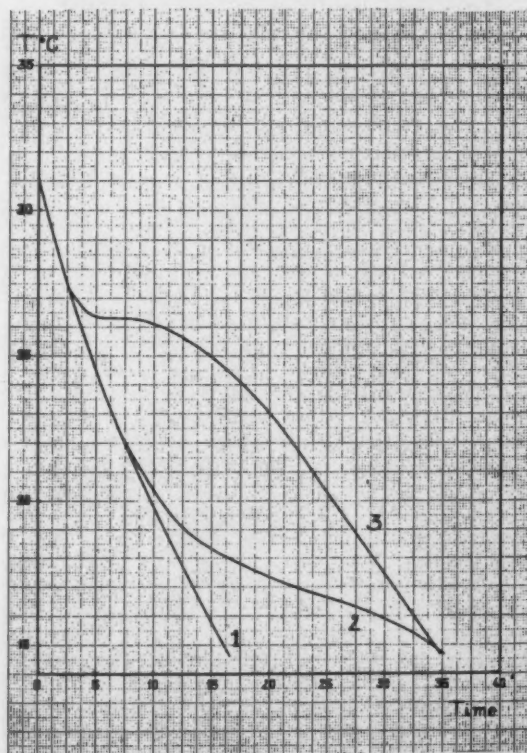

Fig. 20. Cooling curves of (1) Paraffin oil (2) Untempered chocolate (3) Properly tempered chocolate.
This explanation is founded upon consideration of cooling curves of tempered and untempered chocolate. With different cooling conditions in the apparatus, different curves are obtained, as can be seen from Fig. 15. For practical purposes, we use an apparatus similar to the one employed for the calorimetric investigation of cacao butter, but the sample is larger (1.5 g), it is contained in a light (3 g) aluminum cylinder, and the glass cylinder which acts as an air jacket is immersed in ice water coolant. Under these conditions the cooling rate is similar to the one observed in a cooling tunnel under practical conditions, and the curves obtained give valuable information on the degree of temper. Nearly the same method was used by Sachsse and Rosenstein (34). Fig. 20 shows the cooling curves of (1) paraffin oil (2) untempered chocolate and (3) properly tempered sweet chocolate (27% fat). It can be seen that with untempered chocolate, heat is evolved from 22° C (71.5° F) onward, but especially between 18-15° C (64.5-59° F). This could be due to direct crystallization of the β' -form, but upon heating the sample from 15° C (59° F) it was found that the melting heat of 22 cal./g for the cacao butter corresponded to a mixture of α - and β' -form. When a sample of the untempered chocolate was moulded, it was covered with bloom after one day at room temperature. With tempered chocolate, heat is evolved at 26.5° C (79.5° F) which is near the mid-melting point of the β' -form. After cooling to 15° C (59° F), a heating curve shows that the melting heat is 32 cal/g, so that at that point the cacao butter must be a mixture of the β - and β' -form in equal proportions. When the sample is reheated to room temperature, the transformation into the β -form is complete